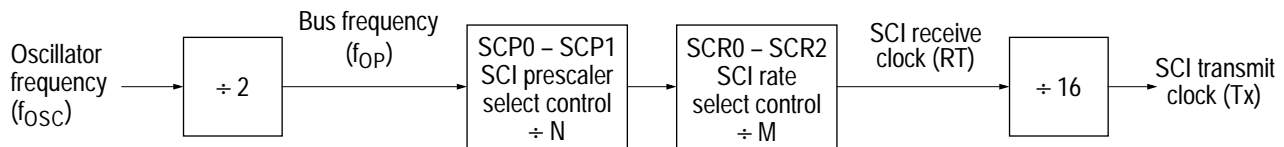

Figure 35. Rate generator division
Data transmission is initiated by a write to the serial communications data register (SCDR). Provided the transmitter is enabled, data stored in the SCDR is transferred to the transmit data shift register. This transfer of data sets the transmit data register empty flag (TDRE) in the SCI status register (SCSR) and may generate an interrupt if the transmit interrupt is enabled. The transfer of data to the transmit data shift register is synchronized with the bit rate clock (**Figure 35**). All data is transmitted least significant bit first. Upon completion of data transmission, the transmission complete flag (TC) in the SCSR is set (provided no pending data, preamble or break is to be sent), and an interrupt may be generated if the transmit complete interrupt is enabled. If the transmitter is disabled, and the data, preamble or break (in the transmit data shift register) has been sent, the TC bit will also be set. This will also generate an interrupt if the transmission complete interrupt enable bit (TCIE) is set. If the transmitter is disabled in the middle of a transmission, that character will be completed before the transmitter gives up control of the TDO pin.